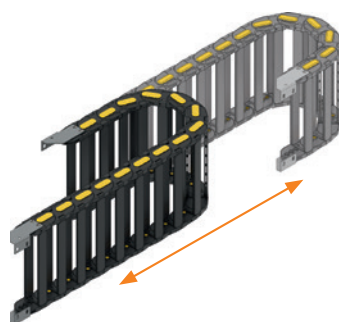

Fig. 2
- Suspended applications where the cable chain is not supported from the bottom, for example in machine tools. In this case at least the first three links near both the mobile and the fixed point should be supported from the bottom (**Fig. 2**), depending on factors like travel distance, additional load, unsupported length. Note: this configuration can place excessive stress on the cable chain